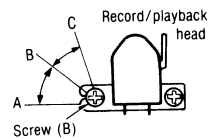

Fig. 3
2. Playback the 8kHz signal from the test tape (QZZCFM). Adjust screw (B) in fig. 3 for maximum output L-CH and R-CH levels. When the output levels of L-CH and R-CH are not at maximum at the same point adjust as follows.
3. Turn screw (B) shown in fig. 3 to find angles A and C (points where peak output levels for left and right channels are obtained). Then, locate angle B between angles A and C, i.e., point where L-CH and R-CH outputs are balanced. (Refer to figs. 3 and 4.)